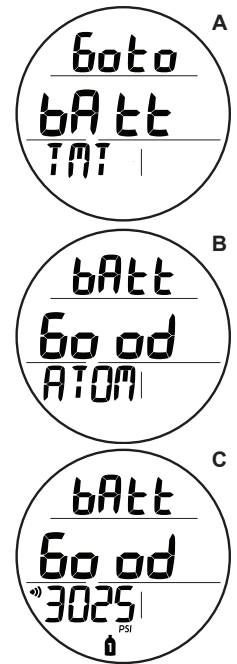

Fig. 1 - BATTERY STATUS
- Watch Battery >> (1) 3 vdc, CR2430, Lithium battery.
- Use life >> 1 year or 300 dive hours if (2) 1 hour dives per dive day.
- TMT (Transmitter) Battery >> (1) 3 vdc, CR2, .75 Ahr, Lithium battery.
- Use life >> 300 dive hours if (2) 1 hour dives per dive day.
**BATTERY STATUS** (Fig. 1)